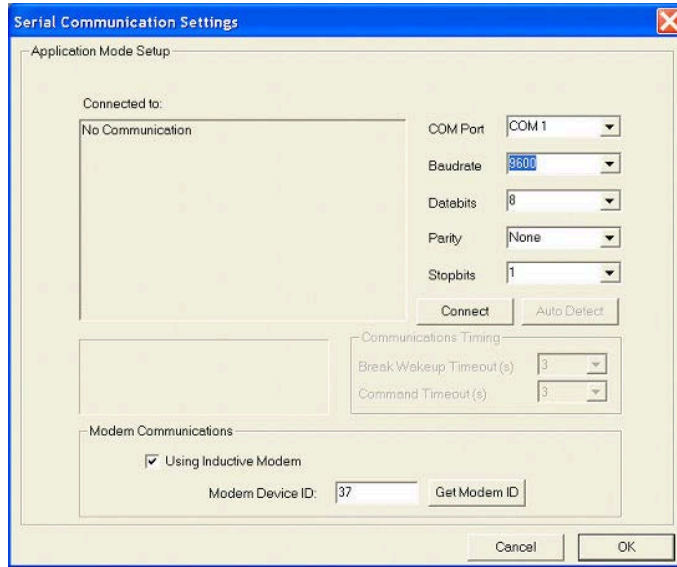

Figure 3. Communication Setting – Inductive Modem Configuration
- g. Leave the other settings at their default values as shown in Figure 3.